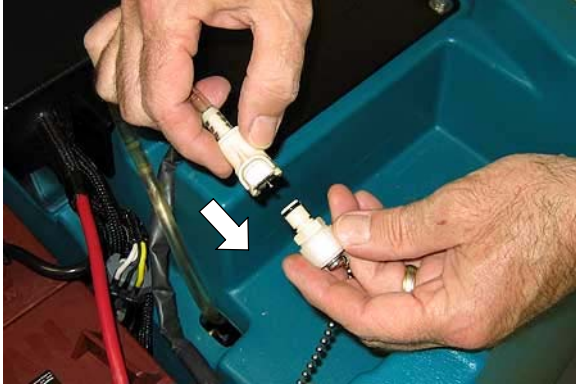

FIG. 69
13. FaST Model: Connect the FaST-PAK supply hose to the storage plug when not in use (Figure 69). Remove any dried concentrate from the hose connector by soaking it in warm water.